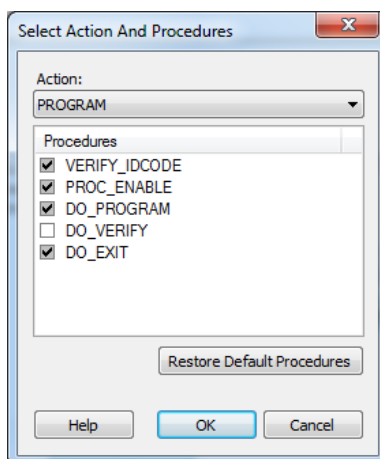

Figure 11 • Select Action and Procedures
3. The **Select Action and Procedures** window appears, showing the procedures for the Programming action as shown in Figure 11. Microsemi recommends using the default settings. Click the **Restore Default Procedures**.